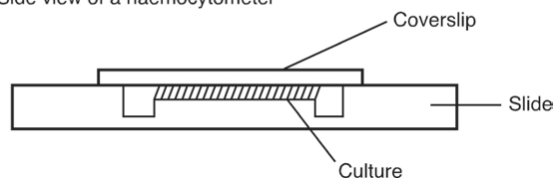

Fig.1 Direct microscopic count using hemocytometer
**a) Direct count of microorganisms (DMC) using a hemocytometer:** A hemocytometer is a counting chamber as shown in **Fig.1** It is a thick glass slide containing a well in the central section. On the bottom of the well a grid is etched containing squares of known area. Each square is  $0.04 \text{ mm}^2$ . A cover slip is placed over this well forming a chamber of known depth (0.1mm). Thus, the volume of liquid that each square can hold is  $0.004 \text{ mm}^3$  ( $0.04 \times 0.1 = 0.004 \text{ mm}^3$ ). The sample to be counted is placed in the well by placing a drop of the sample at the edge of the cover slip so that it runs into the well and over the grid. The hemocytometer is then viewed using a microscope. The number of micro-organisms in several squares is counted and the average number of micro-organisms is calculated. This number of micro-organisms is then used to calculate the number of micro-organisms in the original sample.**Fig.1 depicts Direct microscopic count using hemocytometer**